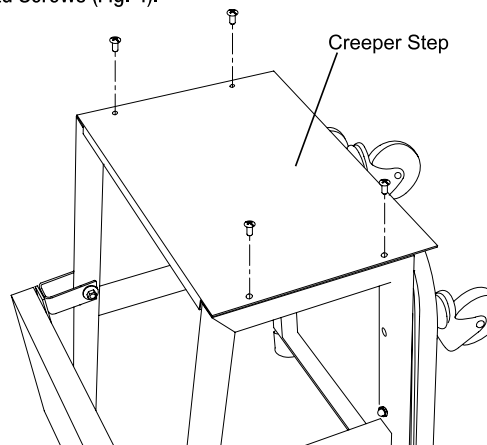

Figure 4 - Attaching Step to Side Frames
4. Fasten Creeper Step to Side Frames using four M6 x 16 Phillips Head Screws (Fig. 4).